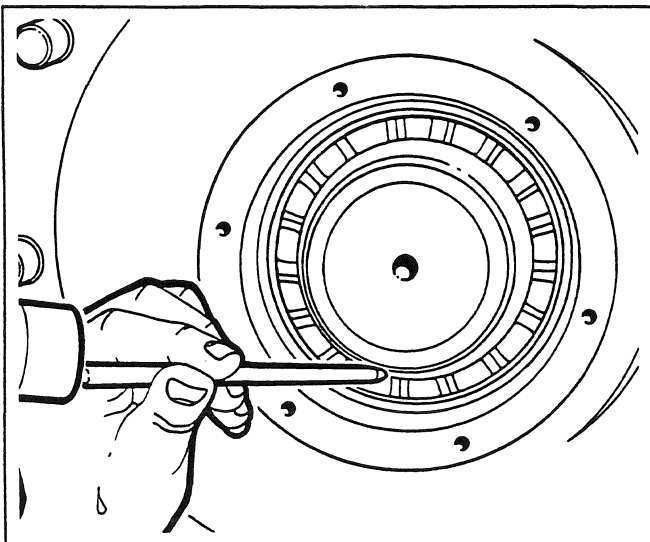

Fig. 13
5. Remove the bolts (34) and starwashers (35) retaining the hub cap (33). Remove the hub cap.
6. Use a hammer and appropriate drift to bend back the tabs of the tabwasher (31) (see Fig. 13). Remove the outer locknut (32). Remove and discard the tabwasher. Remove the inner locknut (30). Remove the lockwasher (29).